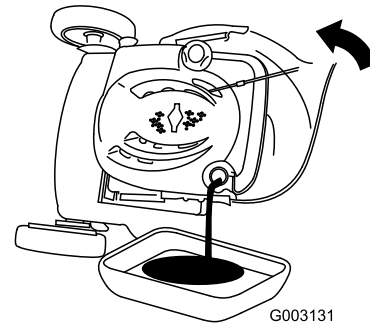

Figure 38
3. Tip the mower onto its side, with the air filter up, to drain the used oil out through the oil fill tube (Figure 38).